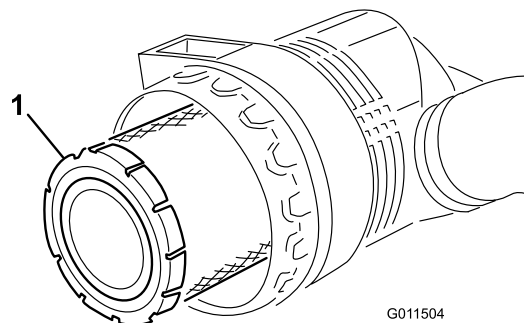

Figure 52
3. Remove and replace the primary filter (Figure 52).